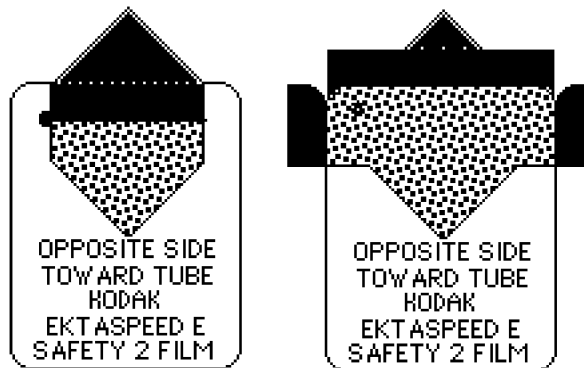

Figure 1-2. Location of the lead foil in the film packet.
1. Ia (iii) Open the film packet; note the position of the lead to the tube side of the film (Figure 1-2).